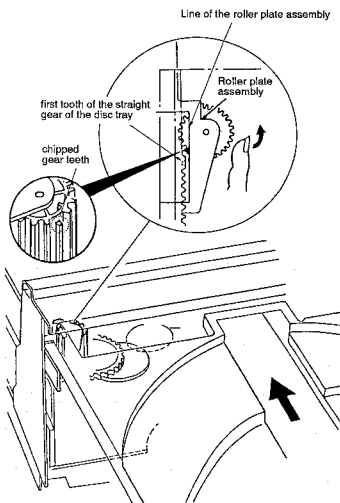

Fig. 17
- ① Adjust the gear positions in the loading mechanism for the disc tray open status, as (A) and (B) mentioned below.
- (A) : The position where the cam gear turns counterclockwise and stops when the OPEN/CLOSE button is pressed.
- (B) : The position where the cam gear stops when the pulley is continuously turned by hand.
- ② The top of one of the gear teeth of the roller plate assembly has been chipped off. Finely adjust the position of this chipped tooth by turning the gear counterclockwise so that the tooth comes halfway on the roller plate line. (Fig. 17)